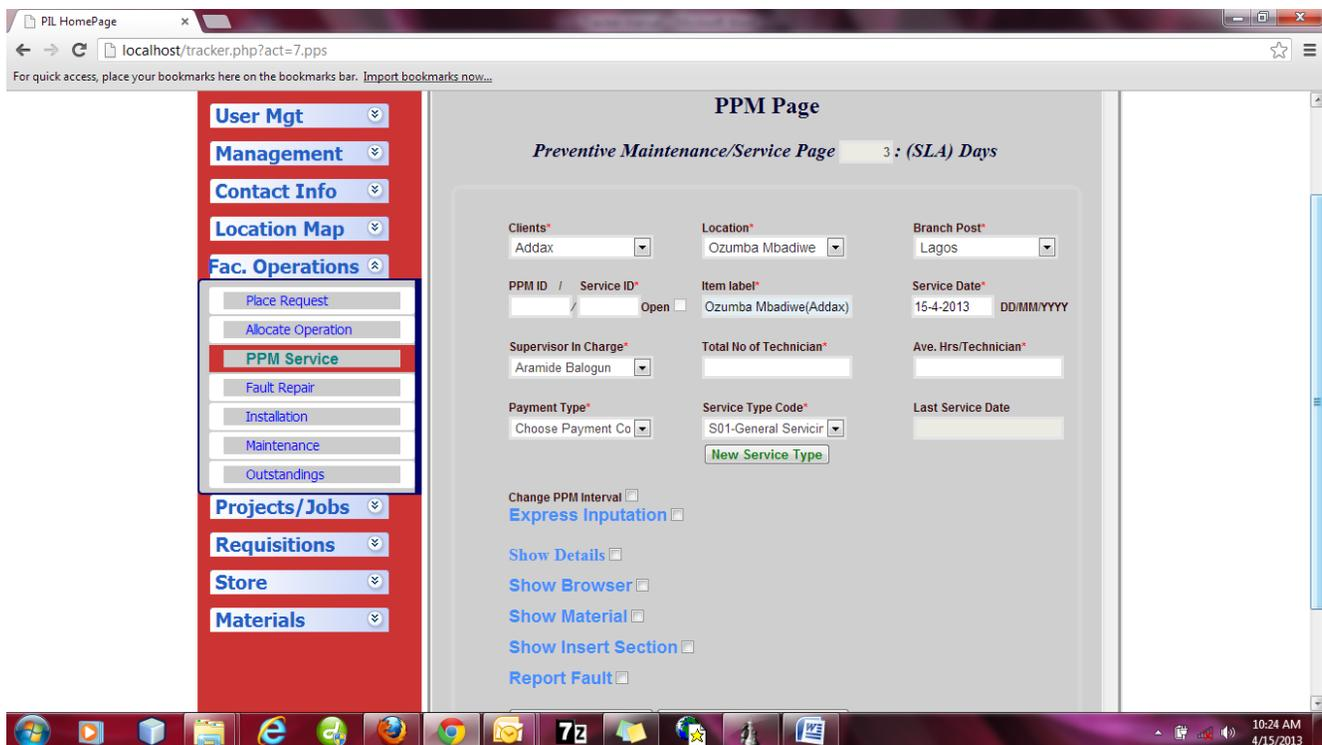

Fig. 6 Facility Operation (PPM Service Page)
- Click on the task link displayed on the Add Task/Contract Section of the Scoping Page (fig. 6) to display the particular task.